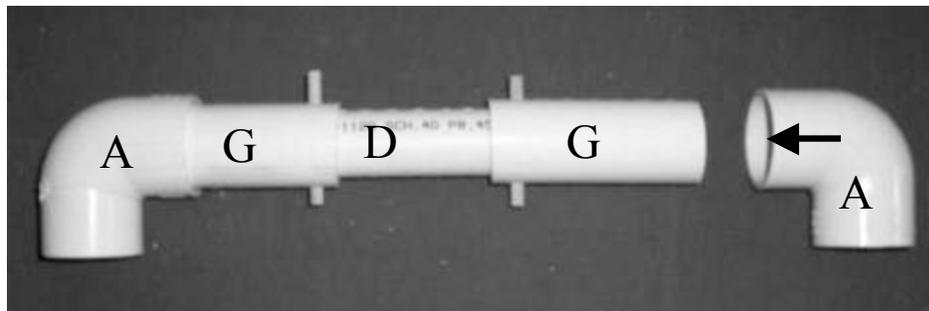

FIGURE 15 – Step 11 – Upper Rear Wheelchair Frame.
**Step 11.** Coat the inner surface of the opening on another Part A with PVC Glue and insert onto Part G joined with a clevis pin in Step 10, being careful to keep Parts A, G, and D oriented in the same horizontal plane as shown in Figure 15. Be sure that holes in Parts D and G are aligned and at the mid-point of the pipe. This is best accomplished by placing all components on a flat horizontal surface. Use the mallet to seat the Part G-Part A connection.